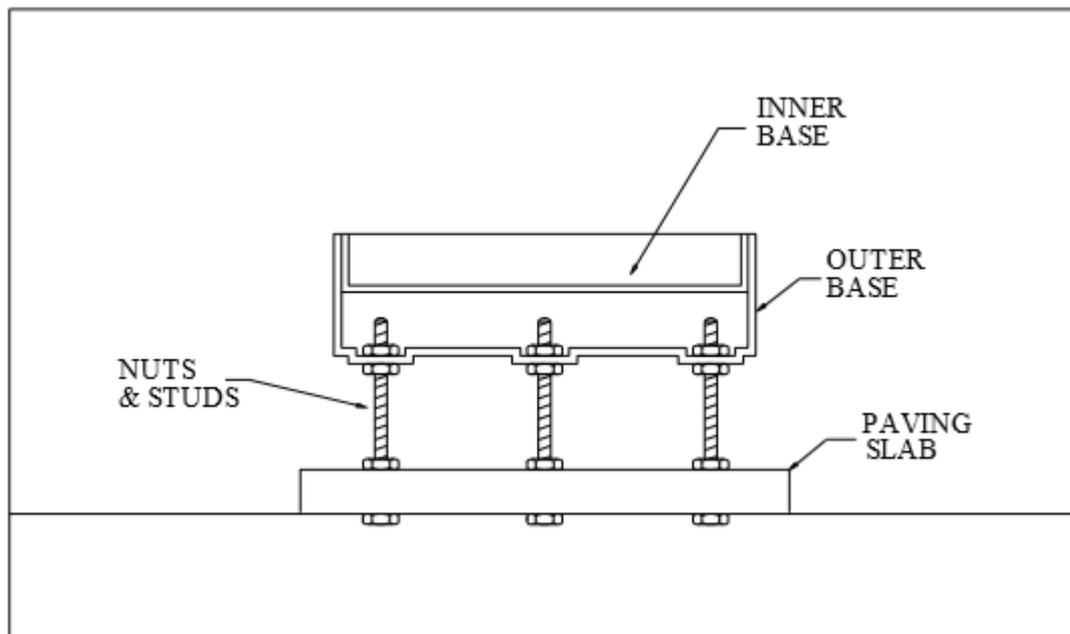

Figure 2 - Paving slab method of levelling the rain gauge
3. Assemble all as shown in Figure 2